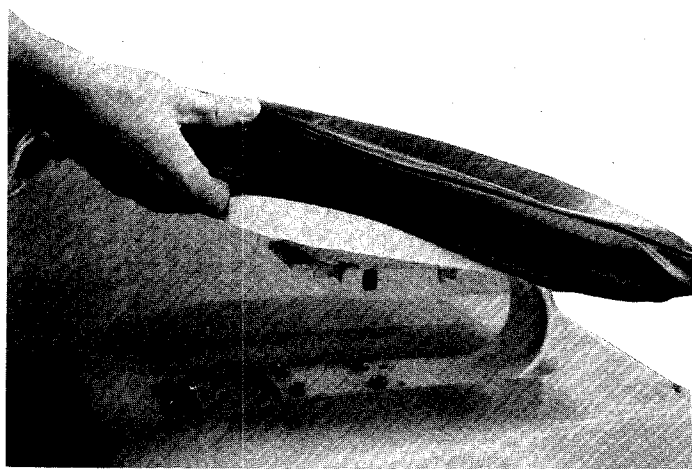

FIGURE 3. SEAT COVER ASSEMBLY
Step 2. Place the seat cover over the seat and tie the string on the back side. See figure 3.